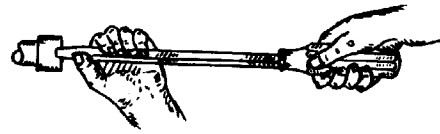

FIG. 2 HOLDING A SCREW DRIVER
3. Unfasten or tighten the screw with sufficient pressure on the screw driver to keep the tip seated in the slot (Fig. 2).